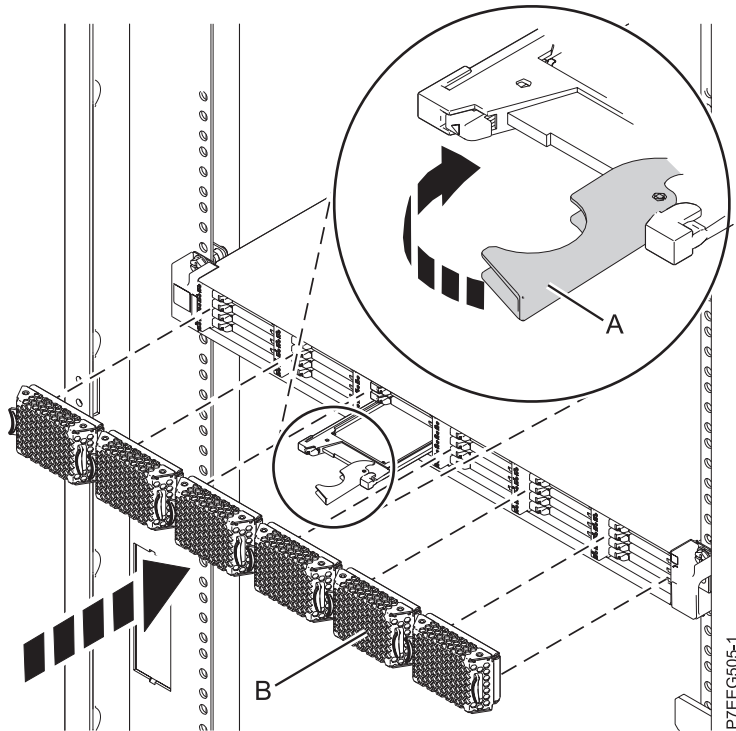

Figure 3. Installing a solid-state drive in the 5888 PCIe storage enclosure
1. With the handle in the unlocked position, align the solid-state drive with the guide rails in the enclosure. See Figure 3 on page 10.